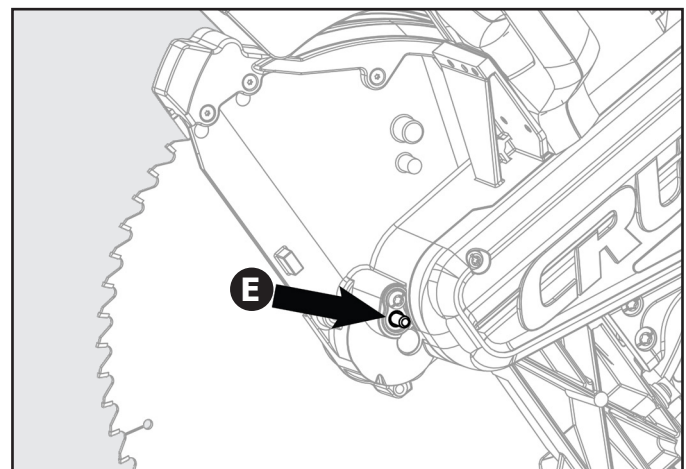

Figure 13
5. Using the supplied blade wrench, remove the blade bolt (D) by turning it clockwise.
6. Remove only the outer blade washer (F) and the blade (G), leaving the inner blade washer on the spindle.
7. Press the spindle lock button (E). See figure 13.
9. Align the double "D" flats on the blade washer (F) with the flats on the spindle and fit the washer onto the spindle.
10. Lock the spindle by depressing the spindle lock button. Screw on the blade bolt (D), remembering to thread it counter clockwise. Tighten blade bolt securely using the provided blade wrench.